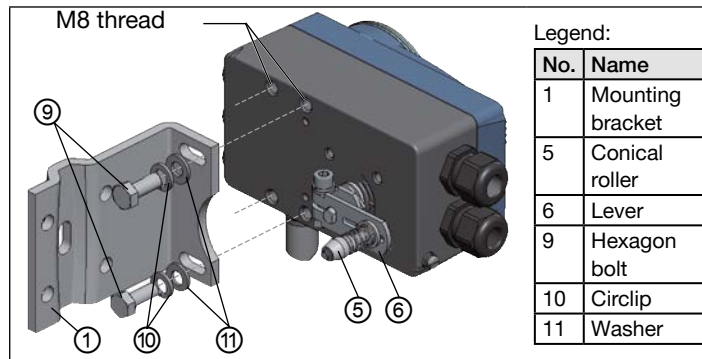

Fig. 8: Attaching mounting bracket
- Attach mounting bracket ① to the back of the Type 8792/8793 with hexagon bolts ⑨, circlip ⑩ and washers ⑪ (see “Fig. 8”).
The conical roller ⑤ on the lever ⑥ of the position sensor must be able to move freely in the hoop (refer “Fig. 8”) along the entire stroke range of the actuator.